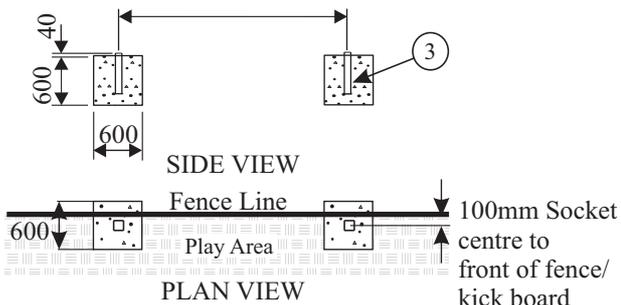

Fig.2b
1 Dig holes 600x600 square x 600mm deep at centres shown in Fig 2b. Position the sockets (3) 100mm centrally forward from the front (court side) of the fence/kick board. Concrete the sockets in leaving approx 40mm from top of concrete to ground level (for turf). Use a spirit level to make sure that the sockets are truly vertical and support until set. Replace the turf extracted when the concrete has cured (allow the concrete to set before assembling the rest of the goal).